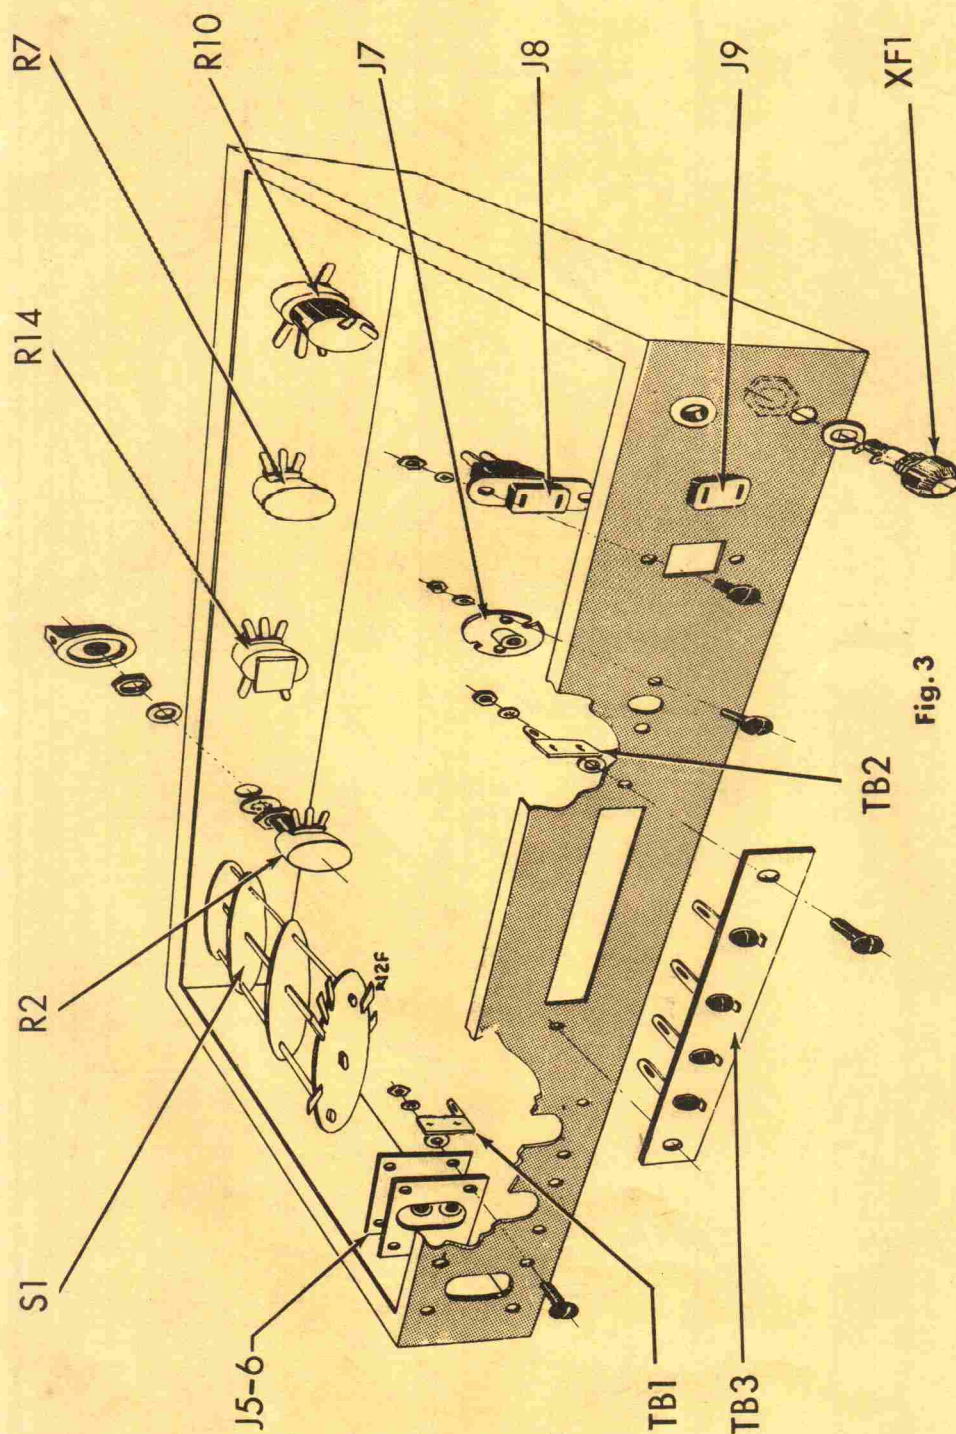
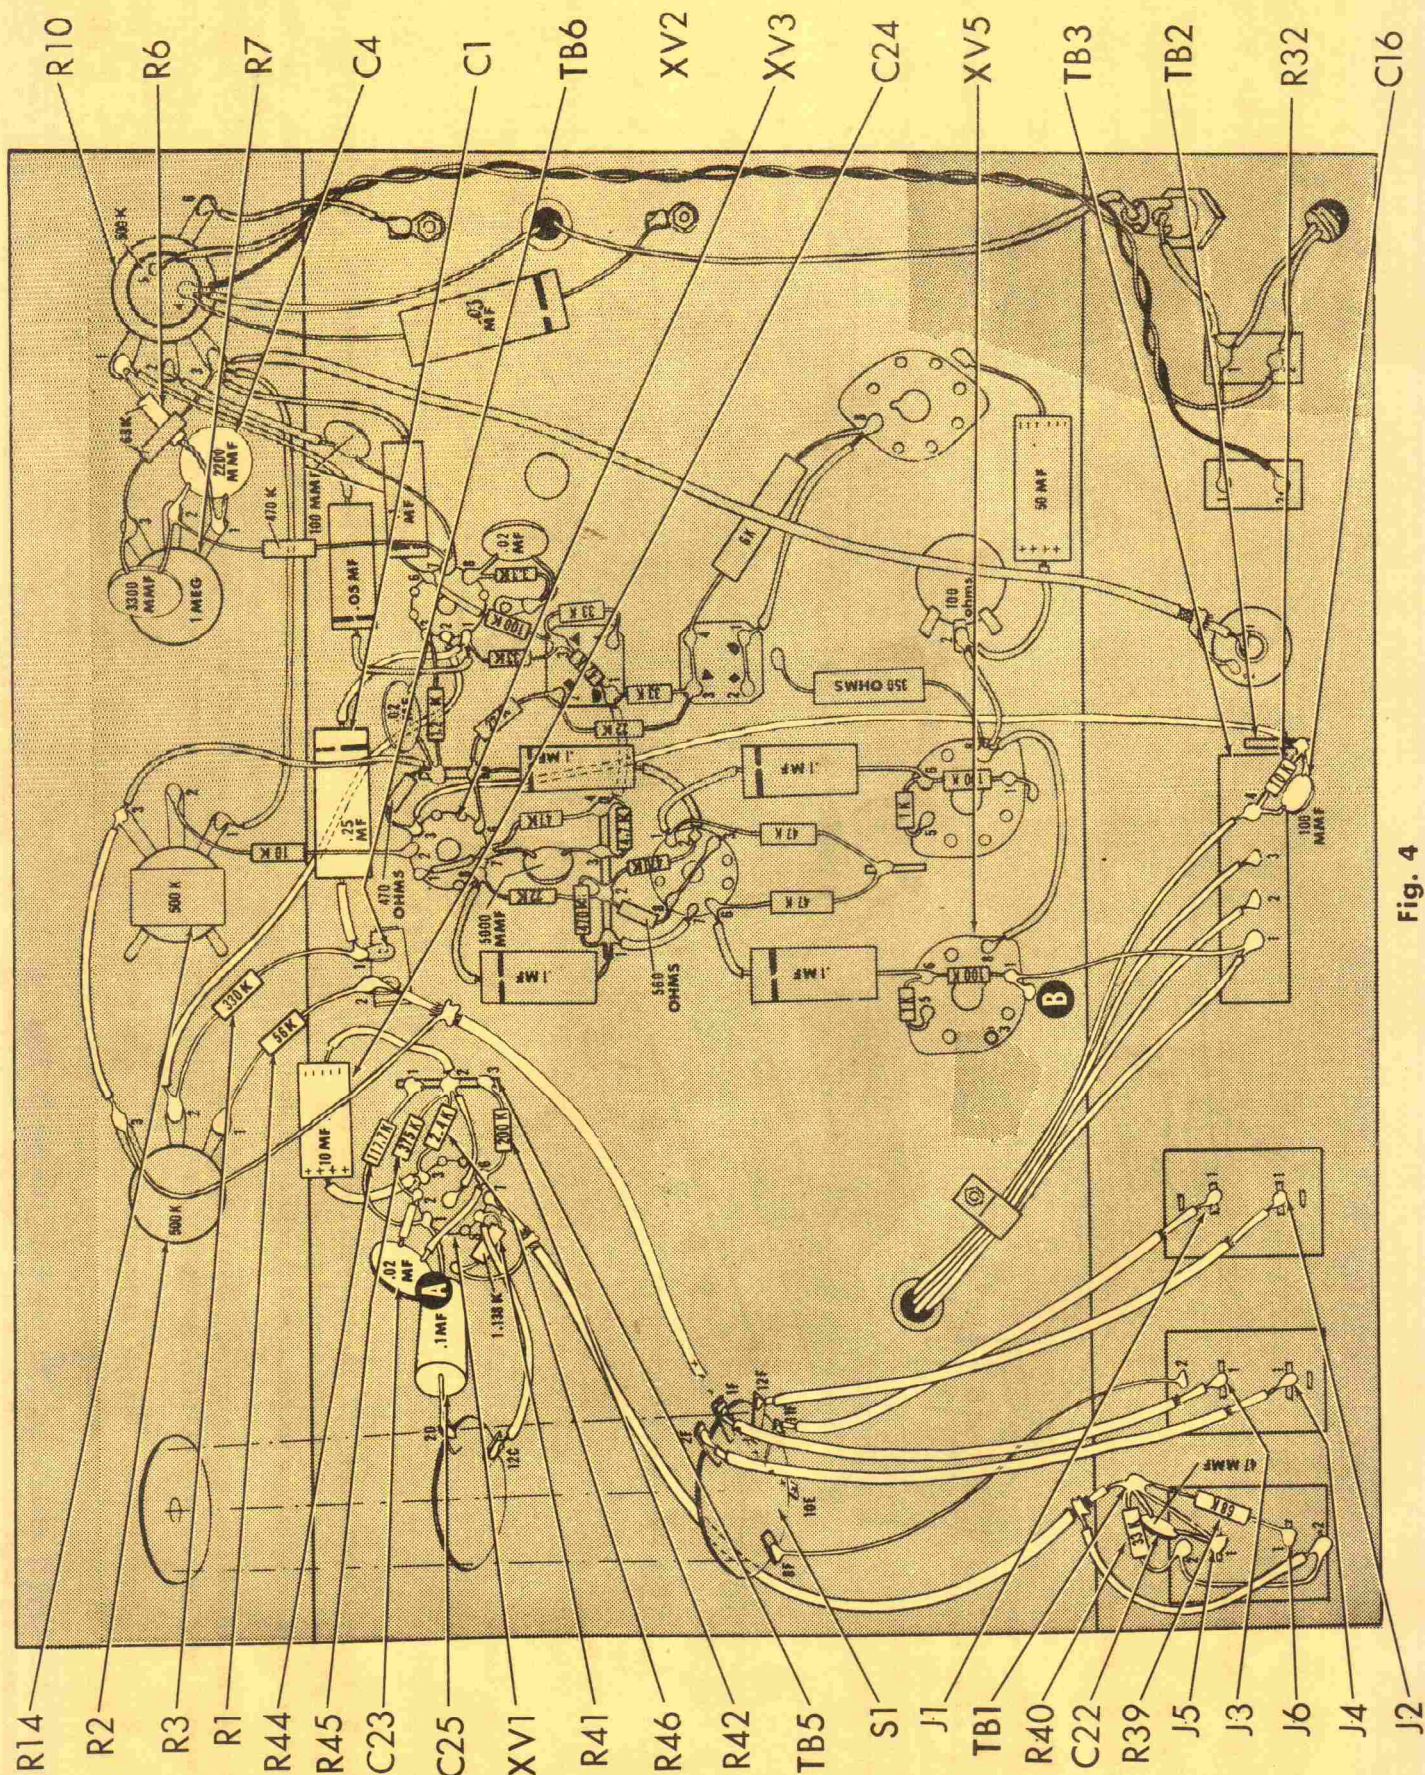

Fig. 3
Fig. 4
() Fig. 3. Mount the 500K pot., R2, the loudness control pot., R14, the 1 meg pot., R7, and the 0.5 meg center-tapped pot with switch, R10. Use two 3/8" hex nuts, one lockwasher and one flat washer on each control.
() Fig. 3. Mount the convenience outlets, J8 and J9, as shown. Use two #6-32 screws, two #6 hex nuts, and two #6 lockwasher on each outlet.
() Fig. 3. Mount the single input jack, J7, as shown. Use two #6-32 screws, two #6 hex nuts, and two #6 lockwashers.
() Fig. 3. Mount the terminal board, TB3, as shown. Use two #6-32 screws, two #6 hex nuts, and two #6 lockwashers. Mount a one post right terminal
() Fig. 3. Mount the dual input jack, J5-6, as shown. Use four #6-32 screws, four #6 hex nuts, and four #6 lockwashers. Use an insulating bakelite between the dual jack and the chassis. Mount a one post left terminal strip, TB1, under one lockwasher as shown.
() Fig. 3. Mount two dual input jacks, J1-2, and J3-4. Use four #6-32 screws, four #6 hex nuts and four #6 lockwashers with each. Do not use any insulating bakelite or terminal strips (Fig. 4).
() Fig. 3. Mount the fuseholder, XF1, as shown.
- () Fig. 4. Connect a 33K 20% resistor, R40, from J5-2 (C) to TB1 (C).
- () Fig. 4. Connect a 2" black lead from J5-2 (S) to J6-2 (C).
- () Fig. 4. Connect a 47mmf capacitor, C22, from J5-1 (C) to TB1 (C).
- () Fig. 4. Connect a piece of bare wire from J5-1 (S) to TB1 (C).
- () Fig. 4. Connect a 68K 20% resistor, R39, from J6-1 (S) to TB1 (C).
- () Fig. 4. Cut a 7" piece of shielded cable. On both ends, the outer insulation is stripped back 1", the braided shield is stripped back 3/4" and the inner insulation is stripped back 3/8". Wrap one turn of a 3" piece of bare wire around each end of the braided shield and solder. Connect the inner lead of one end to TB1 (S), and the inner lead of the other end to XV1-7 (S). Connect the bare wire at one end (covered with spaghetti) to J6-2 (S), and the other bare wire to ground lug "A" (C).
- () Fig. 4. Mount the switch, S1, as shown. Use two 3/8" nuts, one 3/8" lockwasher and one 3/8" flatwasher (Fig. 3).
- () Fig. 4. Connect the bare wire from S1-8F to J3-2 (S).
- () Fig. 4. Connect the four ends "A" of the shielded cables from S1 as follows:
- 1F to J3-1 (S)
- 2F to J4-1 (S)
- 11F to J1-1 (S)
- 12F to J2-1 (S).
- () Fig. 4. Connect the black lead from the output transformer, T2, to TB3-1 (C).
- () Fig. 4. Connect the slate lead from T2 to TB3-2 (S).
- () Fig. 4. Connect the green lead from T2 to TB3-3 (S).
- () Fig. 4. Connect the yellow lead from T2 to TB3-4 (C).
- () Fig. 4. Connect one end of a bare wire to TB3-1 (S). Pass the other end thru XV5-1 (C) and connect to ground lug "B" (S) on XV5.
- () Fig. 4. Connect a 10K resistor, R32 and a 100mmf capacitor, C16, from TB3-4 (S) to TB2 (C).
- () Fig. 4. Connect an 10" black lead from TB2 (S) to XV3-3 (C). Run the lead along the chassis as shown.
- () Fig. 4. Connect a 1.138K resistor, R41, from XV1-8 (C) to ground lug "A" (S).
- () Fig. 4. Connect the blue lead from S1-12C to XV1-8 (S).
- () Fig. 4. Run the free end of C25 under R41 and connect to XV1-1 (C). The capacitor should be perpendicular to the chassis. Use spaghetti.